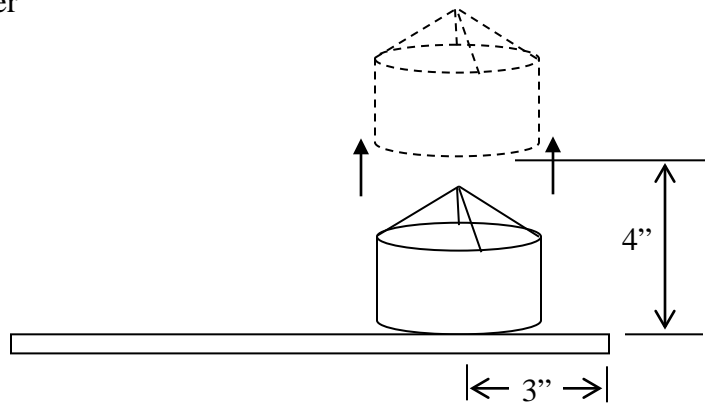

Fig. 1 Basket and Platform
Design and construct a machine, using only parts from a Lego kit (model number specified by the E3 Committee), capable of vertically lifting a basket of weights to a height of 4” in 30seconds. The machine will be placed on a platform provided by the E3 committee, Figure 1, and must support itself without falling over while connected to the basket. The basket (also provided by the Committee) will be placed with its center 3 inches from the nearest edge of the platform. The machine must raise the basket, with an amount of weight selected by the competing team, vertically to a height of 4 inches within 30 seconds of beginning the lift. Flat washers, 3/8 inch in diameter, will be used for the ballast weight within the basket. The basket itself will be a 4-inch diameter, PVC cup with strings converging to a singular point for attachment to the participants’ vehicle.
5. The device must rest on the platform surface, provided by the E3 committee, Figure 1, during the entire competition and must support itself without falling over while connected to the basket. It cannot be clamped in any way, either to the platform or to the baseboard.
7. The basket, which will be provided by the Committee, is a PVC cup 4 inches in diameter with strings converging to a singular point for attachment to the device (figure 1b). The basket will be rested on the platform with its center 3 inches from the nearest edge as shown in figure 1. *Note, the basket rests on the same platform as the machine.*